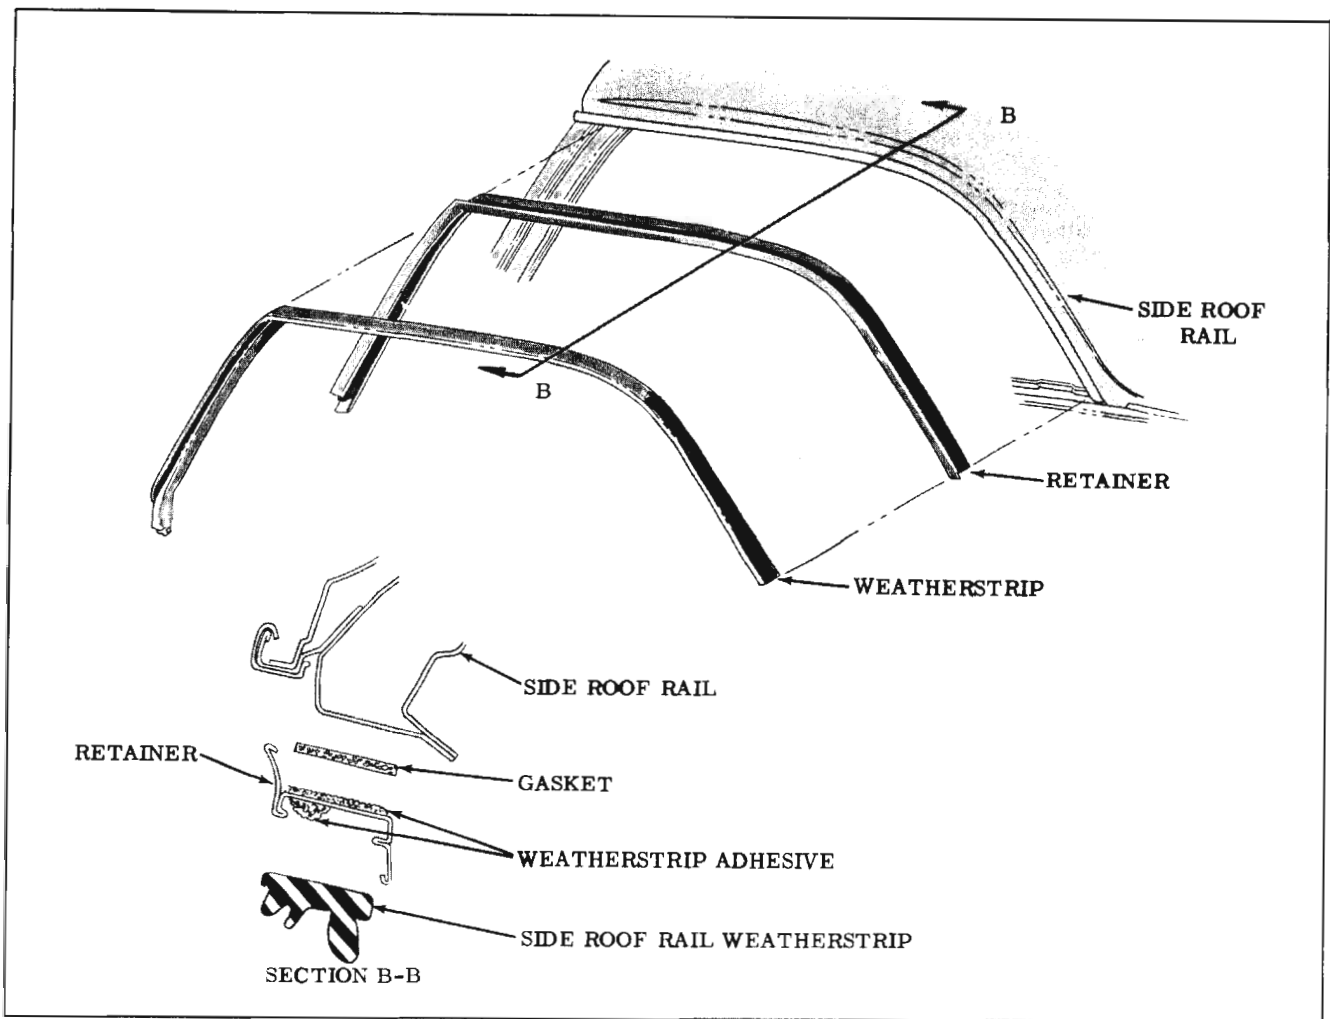

Fig. 16-61 Side Roof Rail Weatherstrip Assembly (47" Style)
2. Apply a continuous bead (approximately 3/16" diameter) of weatherstrip adhesive along entire outboard surface of side roof rail weatherstrip retainer. (Section "B-B", Fig. 16-61)